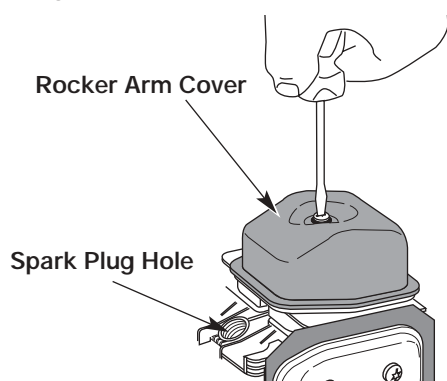

Fig. 65
7. Clean dirt from around the rocker arm cover. Remove the screw holding the rocker arm cover with a large flat blade screwdriver or Torx T-25 bit (Fig. 65). Remove the rocker arm cover and gasket.
- The piston is at the top of its travel while looking in the spark plug hole (Fig. 65)